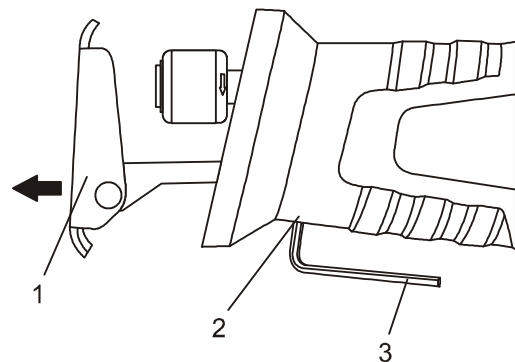

Fig. 2
1. To adjust the pivoting shoe (1), loosen the pivoting shoe hex screws (2) on the lower side of the saw using the 4 mm hex key (3) (Fig. 2).